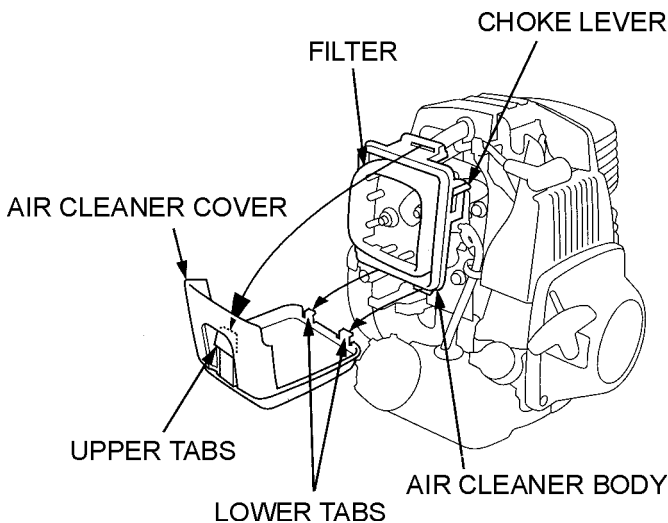

Figure 16. Air Cleaner
3. Press the latch tab on the top of the air cleaner cover (Figure 16), and remove the cover. Check the filter to be sure that it is clean and in good condition.